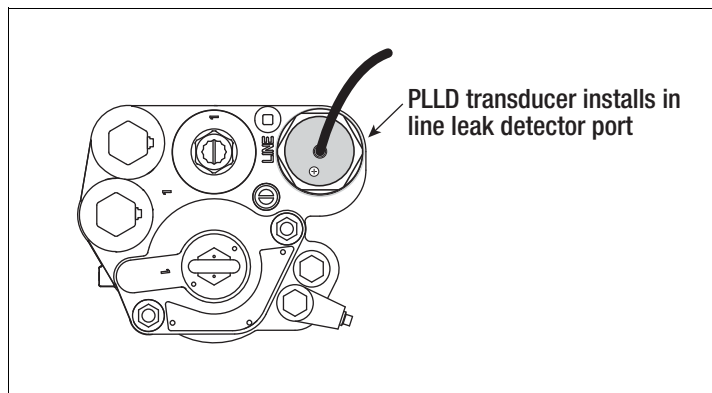

Figure 10. Locating Line Leak Detector Port In Red Jacket VSFC Pump For PLLD Transducer
2. If the pump does not have a Stage II vapor recovery device installed in the pressurized piping, remove the 2" NPT plug from line leak detector port. Install the PLLD transducer into the 2" NPT port (see Figure 10).